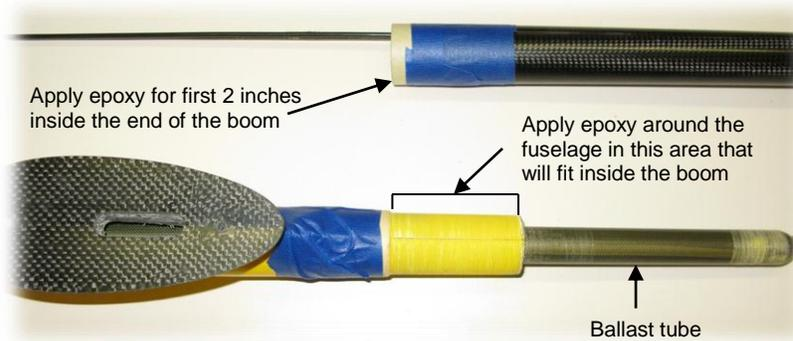

Figure 2: Identifies where to apply thickened epoxy
3. Brush thickened epoxy on the end of the fuselage and inside the end of the boom where the two parts will mate together as shown in figure 2.